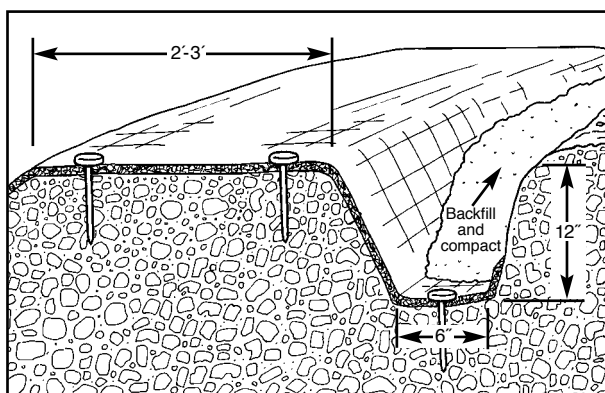

FIGURE 6 Longitudinal anchor trench detail (trapezoidal channel)
- ▶ Excavate longitudinal anchor trenches 12 in (300 mm) minimum deep and 6 in (150 mm) minimum wide along both sides of the installation to bury edges of mat (see Figure 6). The trench shall be located 2-3 ft (600-900 mm) over crest of slope.